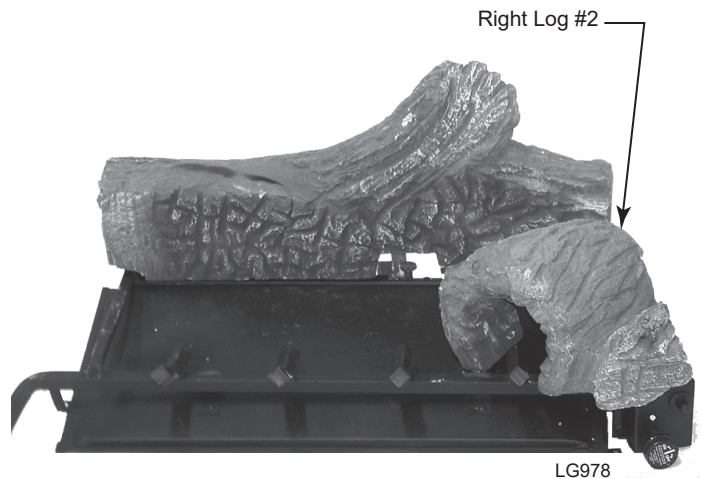
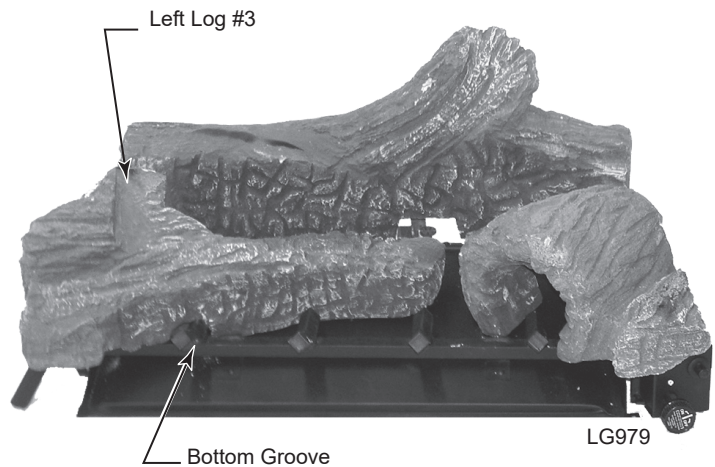

**Figure 14**
**Figure 15**
1. Install the rear log (#1) on the two locating pins of base. *Figure 14*. Visually check to verify the log is securely placed on the pins and in contact with the grate. *Figure 15*